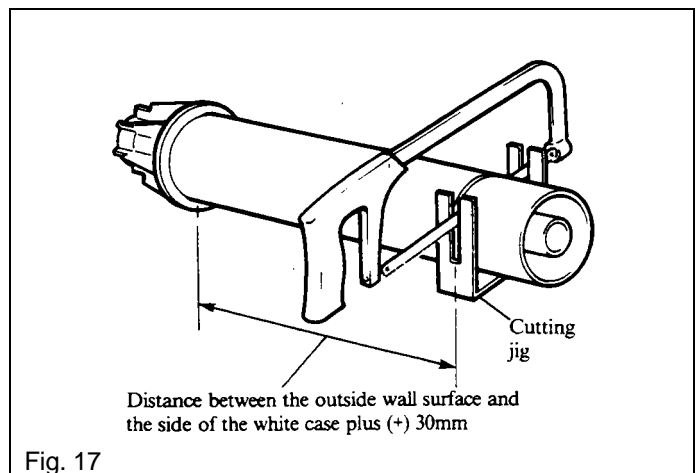

Fig. 17
Refer to Fig. 17.
2. With the cutting jig, supplied with the flue/terminal assembly, in position over the flue/terminal assembly as shown in Fig. 17, cut the tubes to the correct length. Using the cutting jig should ensure that the tubes are cut square.
5. With the cutting jig, supplied with the flue/terminal assembly, in position over the flue/terminal assembly as shown in Fig. 17, cut the tubes to the correct length.